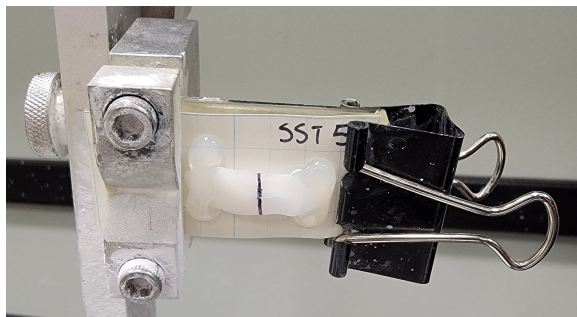

Figure 8: A resin block with a marked otolith is completely fixed on the chuck and ready to be sectioned.
10. To secure the right side of the tag onto the backer block, use a large binder clip to clamp the tag and backer block together (Figure 8);